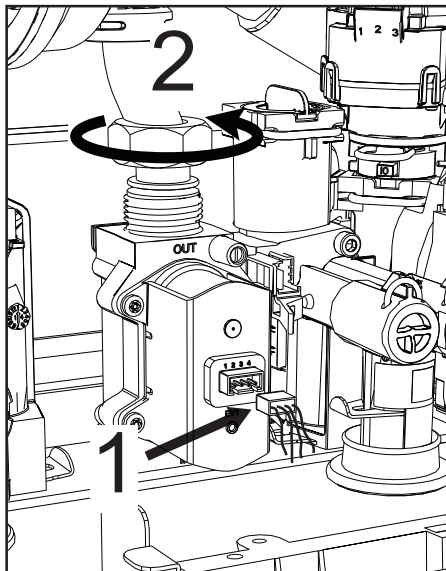

fig. 57
- Disconnect the electrical connectors “1” (fig. 57).
- Disconnect the gas supply pipe “2” (fig. 57)